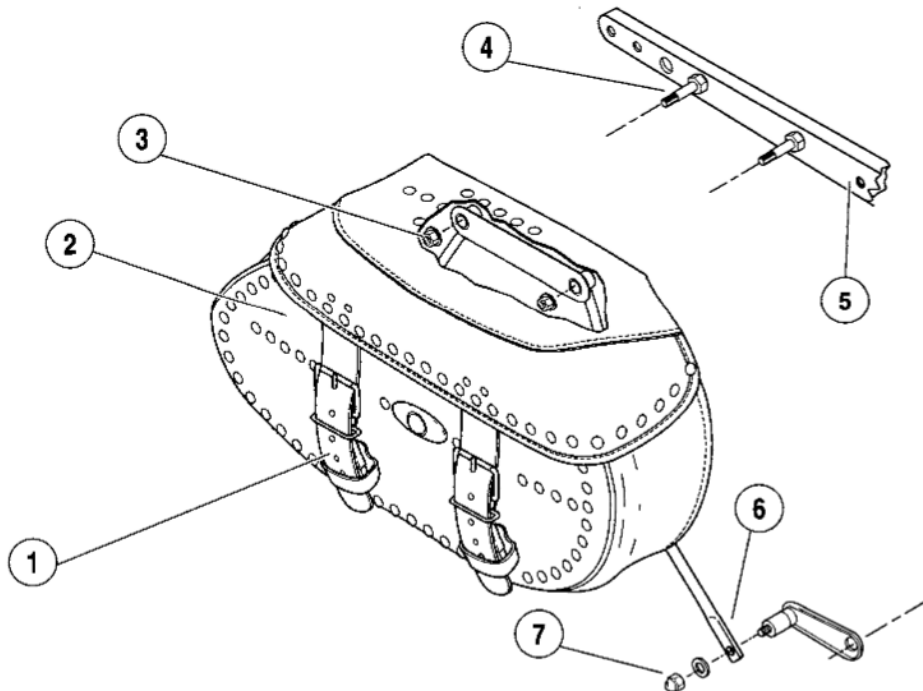

Figure 27. FLSTC / FLSTS Saddlebag Assembly (FLSTC shown)
See Figure 27. Unbuckle the saddlebag straps.
See Figure 27. The saddlebags are fastened to the bike at several points; each by an integral frame. Two saddlebags with attached brackets are mounted on each side of the rear fender. Each saddlebag is mounted to the fender brace and the frame of the motorcycle. Each saddlebag bracket supports the saddlebags and is mounted to the fender brace and the motorcycle frame.
1. See Figure 27. Use one hand to support the saddlebag and another hand to unscrew the flange locknuts from the saddlebag bracket.
1. See Figure 27. Place the saddlebag in position with the mounting holes on the fender brace.